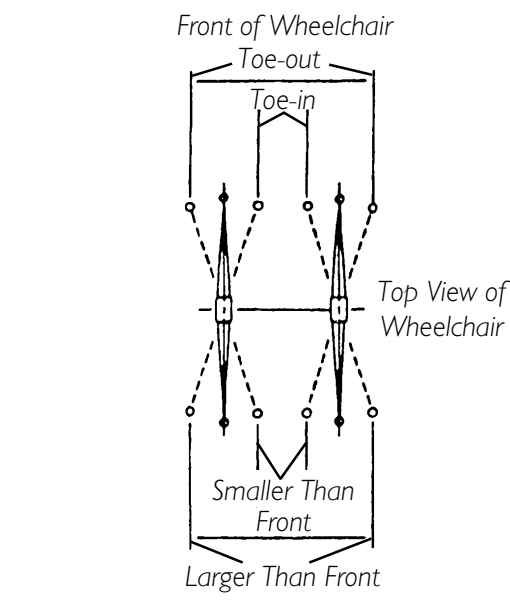

FIGURE 9 - DETERMINING TOE IN/TOE OUT - COMPARING CENTERLINE MEASUREMENTS OF REAR WHEELS
3. Determine difference between two (2) measurements. If **difference** between the **two (2) measurements** is **GREATER** than **1/2-inch (0 ± 1/4-inch for maximum rollability)**, one (1) of two (2) conditions exists:
- A. If the **back centerline measurement** of the rear wheels is **SMALLER** than the **front centerline measurement** of the rear wheels, a **TOE-OUT** condition exists (FIGURE 9).
- B. If the **back centerline measurement** of the rear wheels is **LARGER** than the **front centerline measurement** of the rear wheels, a **TOE-IN** condition exists (FIGURE 9).